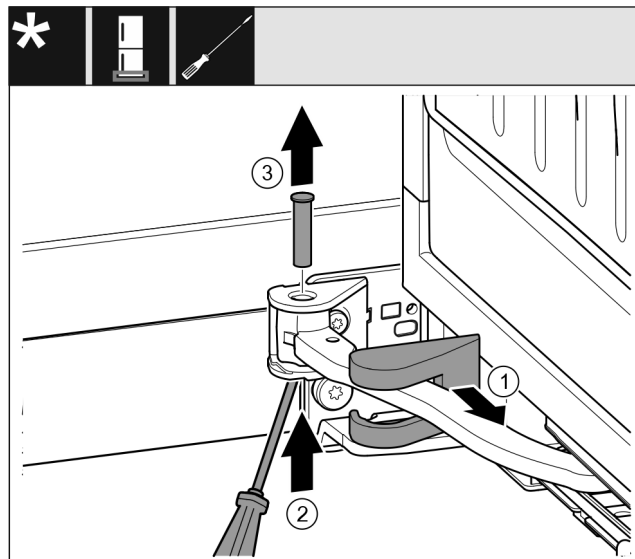

Fig. 16
- ▶ Remove the swap bearing block cover Fig. 16 (1) and slide along the joint.
- ▶ Use a screwdriver to lift the bolt Fig. 16 (2) from below.
- ▶ Pull out the bolt Fig. 16 (3) from above.